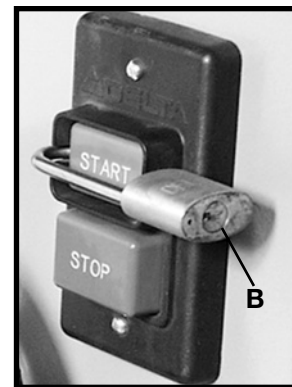

Fig. 30B
**IMPORTANT:** When the machine is not in use, the switch should be locked in the "OFF" position to prevent unauthorized use, using a padlock (B) Fig. 30B with a 3/16" diameter shackle.